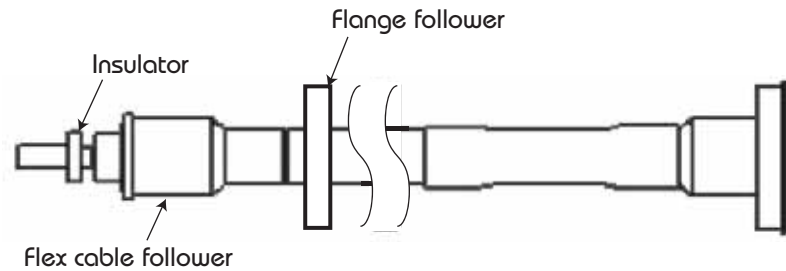

Figure 3. Install the insulator.
Step 3. Install the insulator (figure 3).